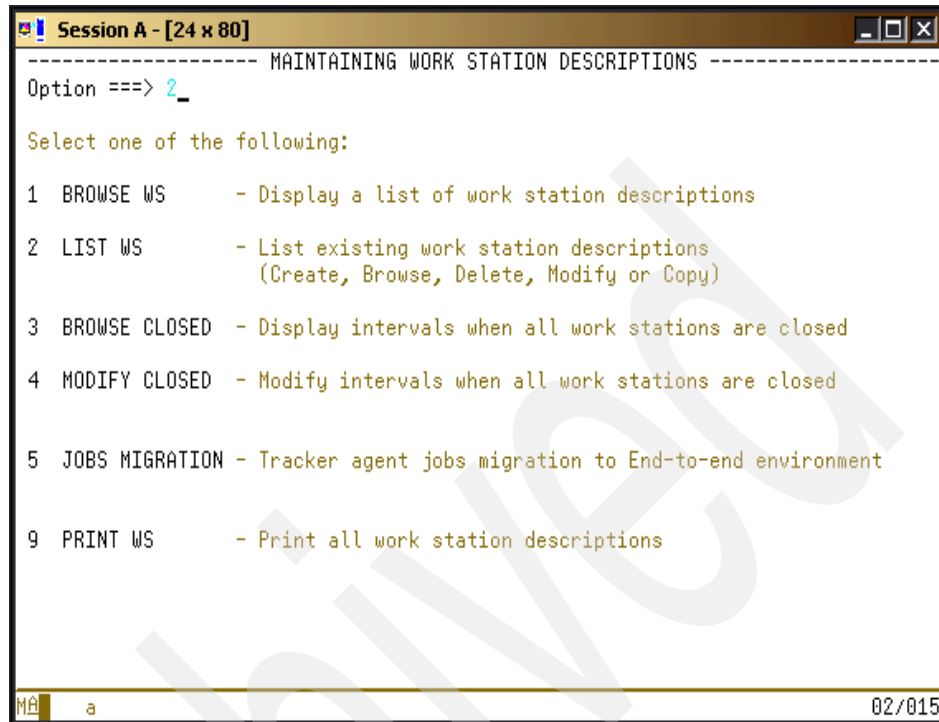

Figure 4-6 MAINTAINING WORK STATION DESCRIPTIONS panel
2. Choose option **1 - WS**. The MAINTAINING WORK STATION DESCRIPTIONS panel that is shown in Figure 4-6 on page 106 displays.